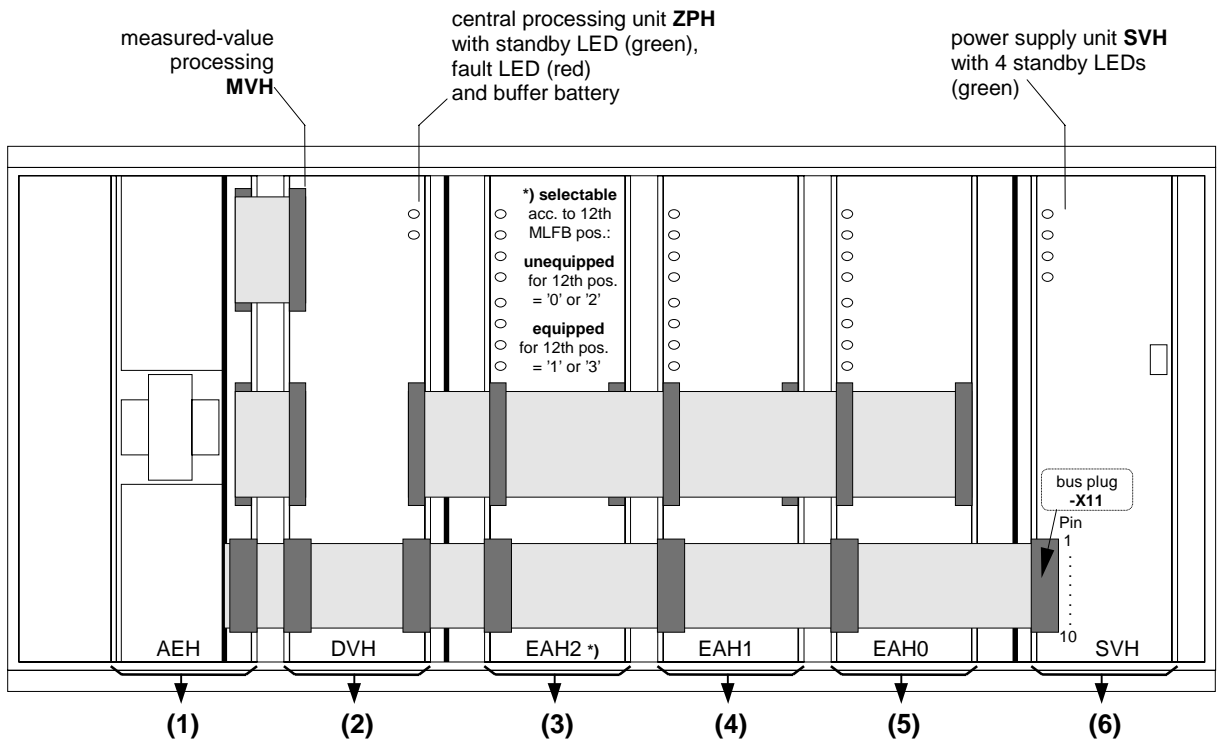

Figure 1: Front view of 7SA513 when front door is open (simplified),
- EAH extension (binary input/output modules; pos. (3), (4), (5) in figure 1): the MLFB code, which pertains to the ordered device, has been software-implemented by the producer and will appear in the display. The 12th MLFB position denotes the EAH extension (e.g. 2 EAH or 3 EAH modules). Up to version V2.12 the actual number of extant EAH modules have not been verified by the software. In versions V2.2\*/V3.\*\*, the number of the plugged-in EAH modules are compared to the number, recorded in the implemented MLFB code. In case of deviation, the device will go into the monitor subroutine (malfunction of device).
Corrective measures: Number of EAH modules (i.e. excluding/including module EAH2 in pos. (3) as in figure 1) must correspond to the number shown in the implemented MLFB code. Before carrying out a firmware update, write down the MLFB code (address 0 or 0000). Check and, if necessary, modify the EAH configuration of the device.
21. Insert the DVH module into the housing; ensure that the module is firmly pushed in. Carefully re-connect the ribbon cables, which connect the DVH-module (see fig. 1, pos (2)), with the other modules. Be careful, that no terminal pins suffer injury (bending). Then re-connect the ribbon cables from the front panel; take care for correct polarity:
- 27.2 Remove the bus plug **-X11** from the power supply module **SVH** (see fig. 1).
- 27.3 Connect a digital-voltmeter to pin 2 (positive pole +5V) and pin 5 (negative pole -5V) of the plug connector X11 (SVH-module). Pin-location see fig. 1.
- 27.15 Replace the bus plug **-X11** to the plug connector X11 of the power supply module **SVH** (see fig. 1).